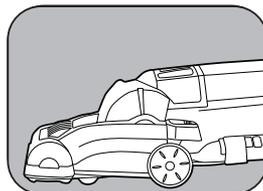

Fig. 4
4. Low position - for cleaning under furniture* (Fig. 4).